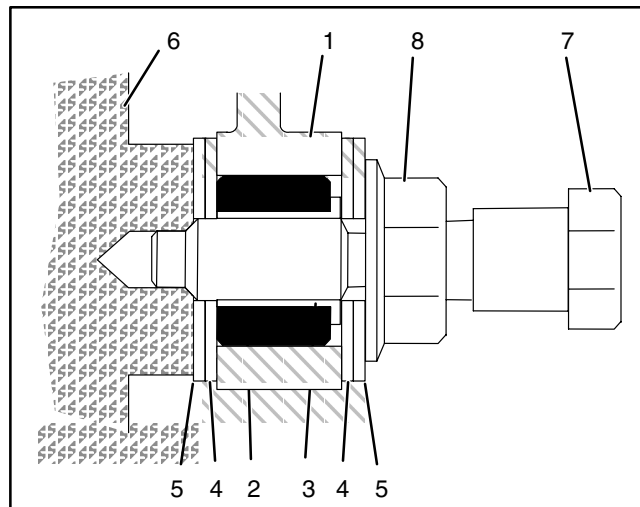

Figure 11
1. If either rubber bushing (2) was removed from the side plate, install a new bushing. The bushing should be installed flush with the inside of the side plate (Fig. 11).
2. Install the flange bushings (3) with flange facing outward.
3. Thread the flange nuts (8) all the way up to the head of each bedbar pivot bolt (7) and apply antiseize lubricant to the threads of each bedbar pivot bolt (7).
4. Slide one metal washer (5) and one plastic washer (4) onto each bedbar pivot bolt. The metal washer (5) must contact the flange nut (8) (Fig. 11).
5. Position bedbar (6) into cutting unit. Slide the top of the bedbar arms between washers on each adjuster assembly.
6. Position one metal washer (5) and one plastic washer (4) between bedbar and each side plate. The metal washer (5) must contact the bedbar (Fig. 11).
8. Tighten both flange nuts (8) to remove end play at the outer washers. Do not over tighten the flange nuts or distort the side plates.
9. Tighten the lock nut (15) on each bedbar adjuster assembly until the adjuster spring is fully compressed, then loosen lock nut 1/2 turn.